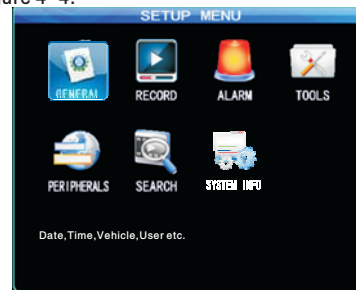

Figure 4-4
3. Password: Enter the appropriate password according the selected username, select down key to move to "OK" and press "ENTER" to log in when the password is correct; when password is incorrect, prompts login password error message, press OK to reenter the password. The initial password for administrator is 111111. The system menu interface after login is as shown in Figure 4-4.
The system menu includes seven main menus: General settings, video settings, alarm settings, system tools, peripherals, video search, system information; as shown in Figure 4-4